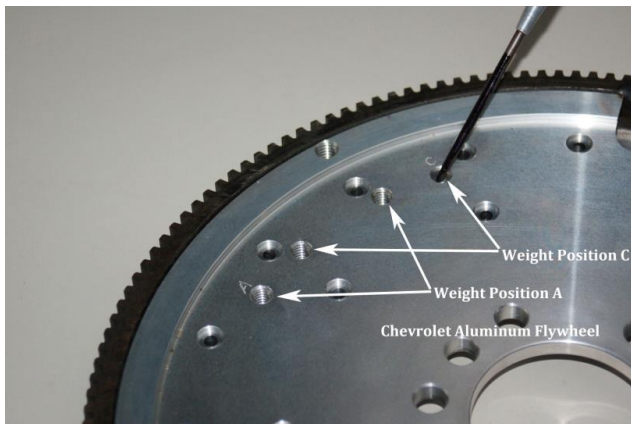

Figure 3
**Chevrolet Engines: Two weight positions (A or C).** See Figure 3 & 4 **Be certain to mount weight in correct position Long screws must be used on Aluminum Flywheels!**